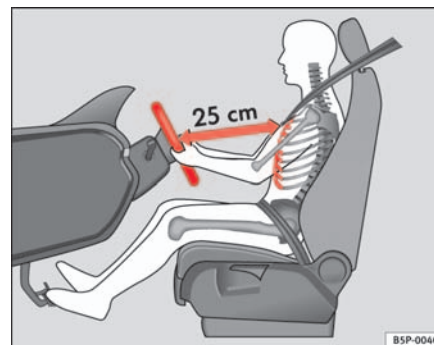

Fig. 129 Proper sitting position for driver
- Adjust the steering wheel in this way until the correct position is set ⇒ fig. 129.
- Adjust the driver seat or steering wheel so that there is a distance of at least 25 cm between the steering wheel and your breast bone ⇒ page 155, fig. 129. If you fail to observe the minimum distance, the airbag will not protect you. Risk of fatal injury.